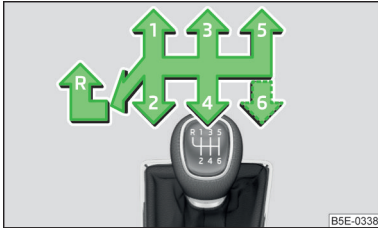

Fig. 93
On the shift lever, the individual gear positions are shown » Fig. 93.
- › Move the shift lever fully to the left and then forward into **R** position » Fig. 93.